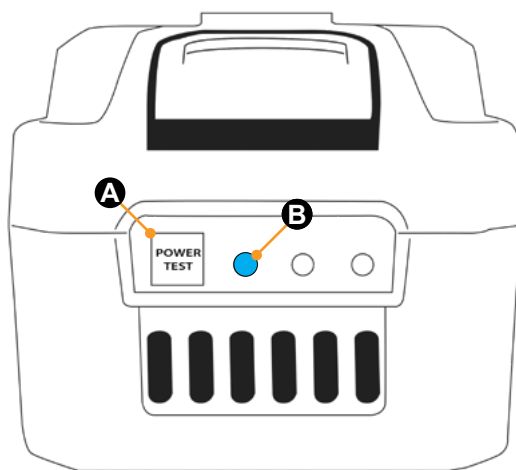

Fig.12
3. The rechargeable battery has a power level indicator located on the top, front of the battery (Fig.12). Press and hold the POWER TEST button (Fig.12A). The number of lit blue lights (Fig.12B) will indicate the battery's existing power level.